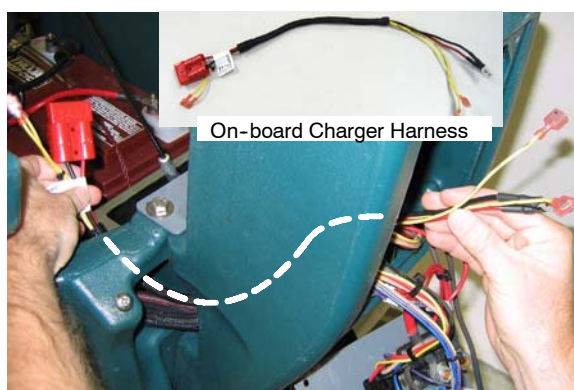

Fig. 7
7. Remove the on-board charger harness from the machine as shown (Fig. 7).